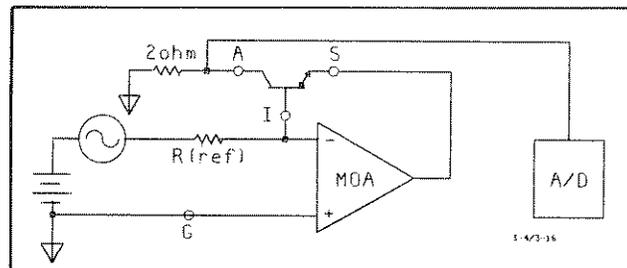

Figure 3-9. T6 Functional Block.
**3-20. T6, Transistor Beta.** Transistor Beta Test supplies a known dc base current to forward bias the base emitter junction and a known ac drive current. An ac voltage measurement is taken across a two ohm collector load. The dc offset voltage (represented by the battery in Figure 3-9) and the reference element are selected to provide the proper bias current to place the transistor at an operating point in the active region. The ac source amplitude is selected to prevent the transistor from being cut-off or saturated by the peak-to-peak swing of the ac sine wave. Since an ac drive signal and an ac collector measurement are used, T6 is an ac beta test (hfe). Both NPN and PNP transistor can be tested by using a positive offset voltage for NPN and a negative offset voltage for PNP. The equations for calculating the various currents and beta are listed below.